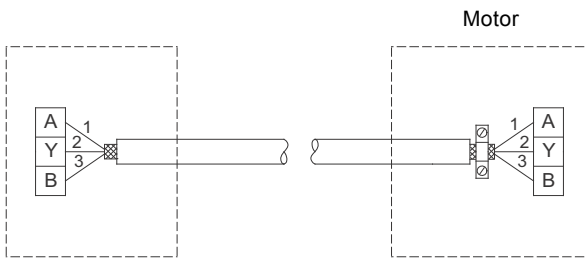

Fig. 11 Connection with screened 3-core cable
- If the unit has no cable clamp as shown in fig. 11, leave the screen unconnected at this end.